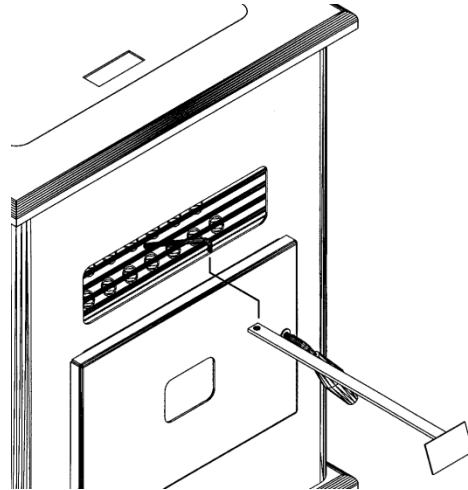

FIGURE 15
- Clean heat exchanger tubes (see "**CLEANING**" and Figure 15).
- Heat Exchange Tubes** – Your Breckwell Big E stove is designed with a built-in heat exchange tube cleaner. This should be used every two or three days to remove accumulated ash on the tubes, which reduces the efficiency of your unit. Insert the handle end (with hole) of the cleaning tool onto the cleaning rod (refer to figure 15). The cleaner rod is located in the grill above the stove door. Move the cleaner rod back and forth several times to clean the heat exchanger tubes. When finished be sure to leave tube cleaner at the rear of the stove.